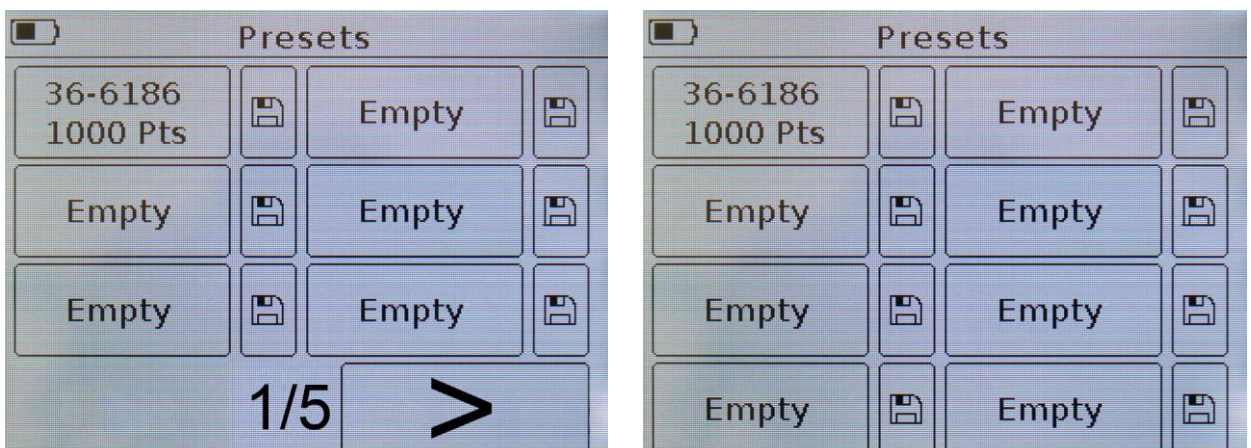

Figure 9.18 – Custom settings menu of ARINST VR 1-6200 and ARINST VR 23-6200 devices
To save custom settings (frequency setting, calibrations, types of displayed plots of marker settings), enter the main menu by pressing the “**MENU**” button (12) (Figure 9.1) and select the **Presets** section. A menu of user settings will appear on the screen, as in Figure 9.18.